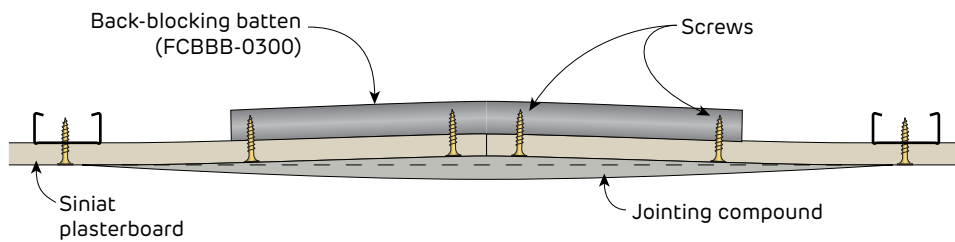
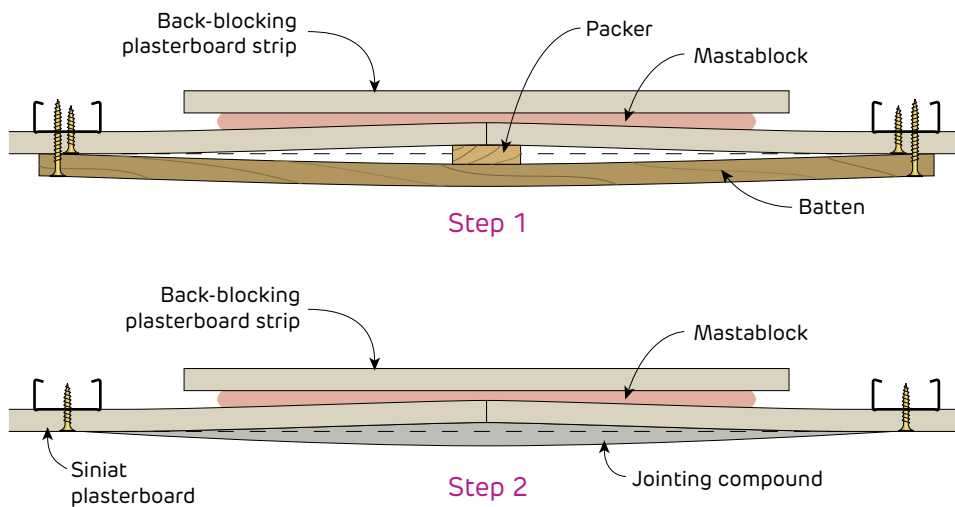

FIGURE 62 Creating a Recess on a Ceiling Butt Joint using Back-Blocking Battens
FIGURE 63 Creating a Recess on a Ceiling Butt Joint using a Temporary Packer
- > Create a recess by using either back-blocking battens as shown in Figure 62 or packers as shown in Figure 63 and 64.